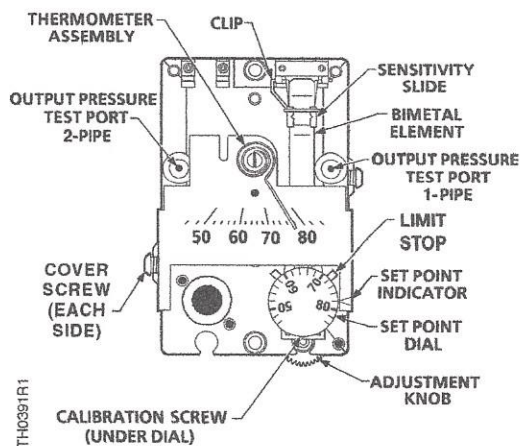

Figure 4. TH192 S Thermostat Details.
2. Place a screwdriver in the center of the thermometer assembly (Figure 4). Carefully rotate the thermometer assembly until the pointer tip indicates the correct room temperature.
To change the limit stop settings, use a needle nose pliers to pull the limit stop (Figure 4) between the set point cam gear teeth. Do not pull the limit stop any more than necessary to clear the gear teeth. Rotate the limit stop to its new position. Changing the limit stop position one gear tooth changes the limit stop setting by 1-1/3°F (0.7°C).
The factory thermostat sensitivity setting is approximately 2.5 psi/°F (31 kPa/°C). To change the sensitivity, use a flat blade screwdriver to carefully move the sensitivity slide (Figure 4) to the desired position as follows:
5. If the control pressure does not read 7 to 8 psi (48 to 55 kPa), turn the calibration screw (Figure 4) using the calibration tool or a 1/8-inch (3.2 mm) wrench until the pressure is 7 to 8 psi (48 to 55 kPa). The sensing element is now in calibration and the set point can be changed to the desired room temperature.